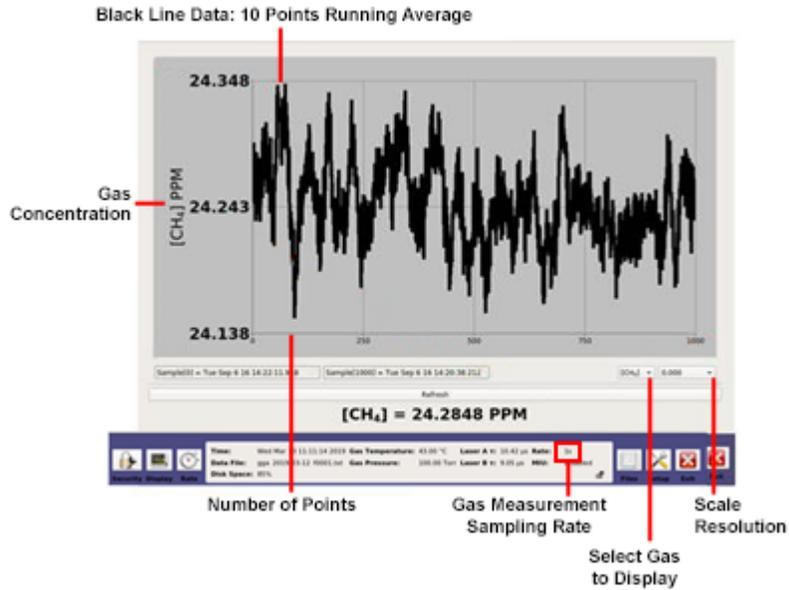

Figure 29: Timechart Display
- *Timechart* (Figure 29)
The *Timechart* display (see Figure 29) provides the absorption (in ppm or ppb) of the sample gas measured. The black line represents the trace of measured concentrations at a customizable interval rate.